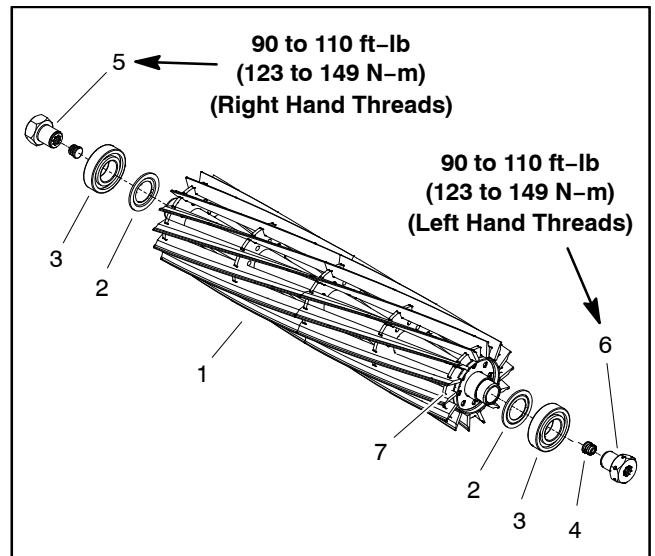

Figure 26
5. Loosen the reel nuts (Fig. 26):
IMPORTANT: The reel nut on the left end of the cutting reel has a black finish and has left-hand threads. The reel nut on the right end of the cutting reel has a silver finish and has right-hand threads (Fig. 26).
9. Tighten the reel nuts (Fig. 26):